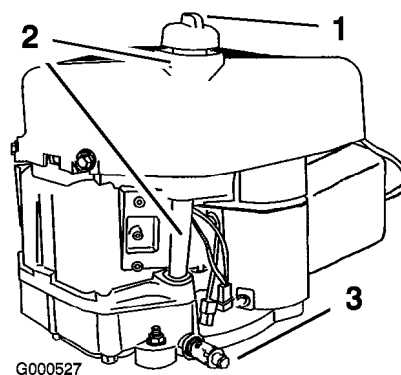

Figure 24
2. Clean around the oil dipstick (Figure 24) so that dirt cannot fall into the fill hole and damage the engine.
10. Clean around the oil dipstick and unscrew the cap (Figure 24).
11. Slowly pour approximately 80% of the specified oil into the filler tube (Figure 24).